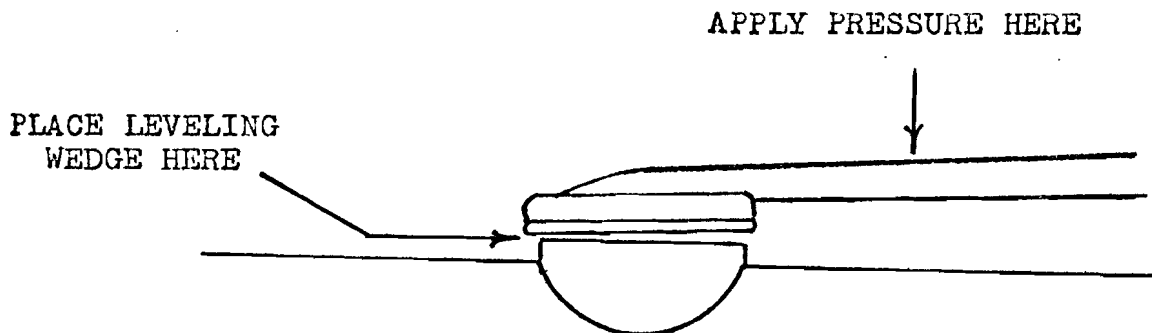

Figure 33
3. Apply pressure on the weak side (Figure 33).